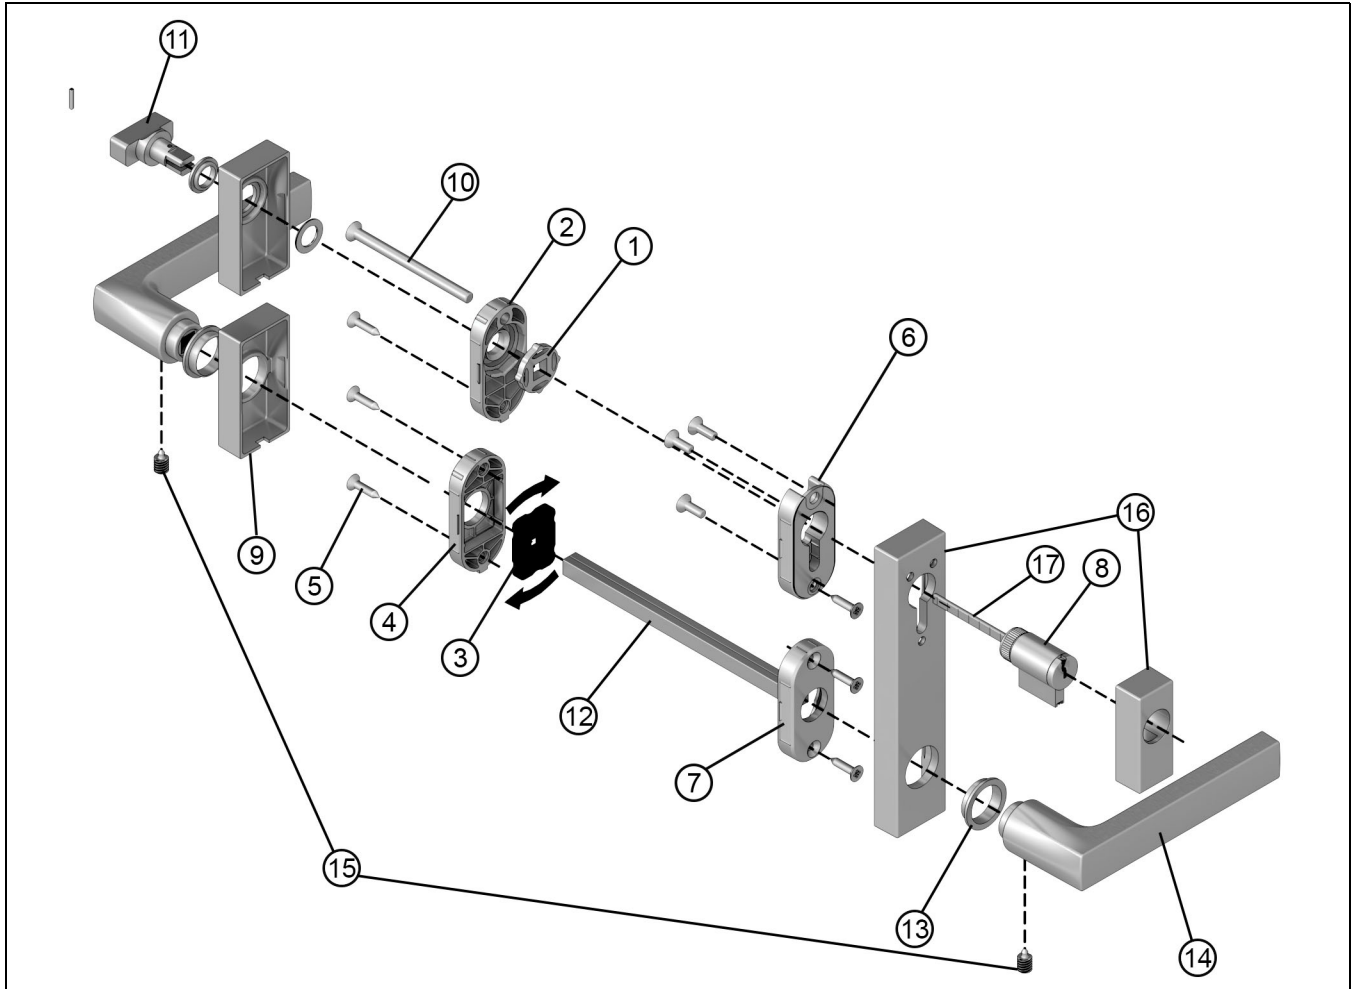

Figure 1
3. Screw the mounting bases to the panel using the short sheet metal screws. Ensure the small plastic tabs are orientated downward. (See inset Figure 1, base is shown from the back side). The mounting bases with gaskets will go on the exterior.